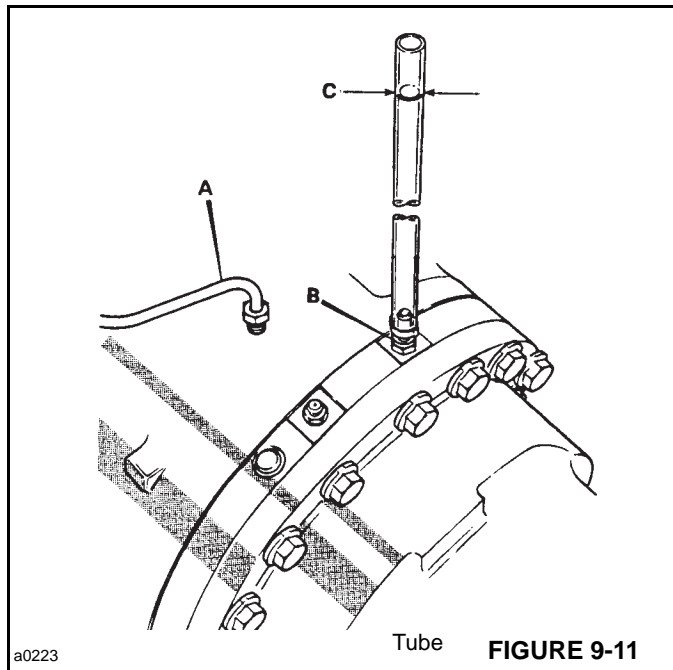

FIGURE 9-11
- a. Install an adapter fitted with a piece of clear tube (approximately 120 mm [4.75 in] long) to the brake piston port [B, Figure 9-11]).